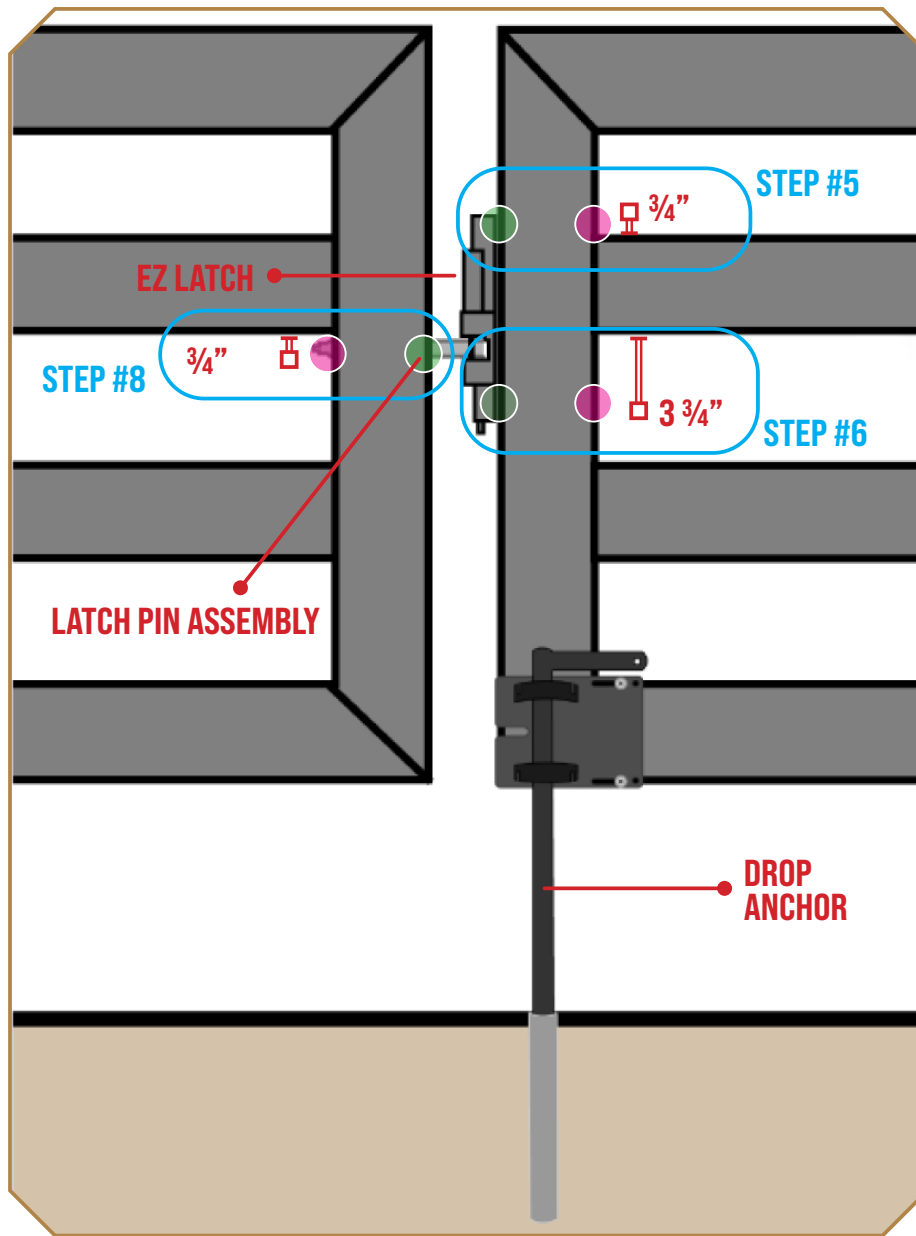

Figure 2
2. Drill three  $\frac{21}{32}$ " holes (1 hole on the pin-gate; 2 holes on the ground-anchor gate) using a step drill. Reference the pink circles on Figure 2 for placement.
3. Drill three  $\frac{13}{32}$ " holes on the outside face of both gates (1 hole on the pin-gate; 2 holes on the ground-anchor gate) using a step drill. Reference the green circles on Figure 2 for placement.